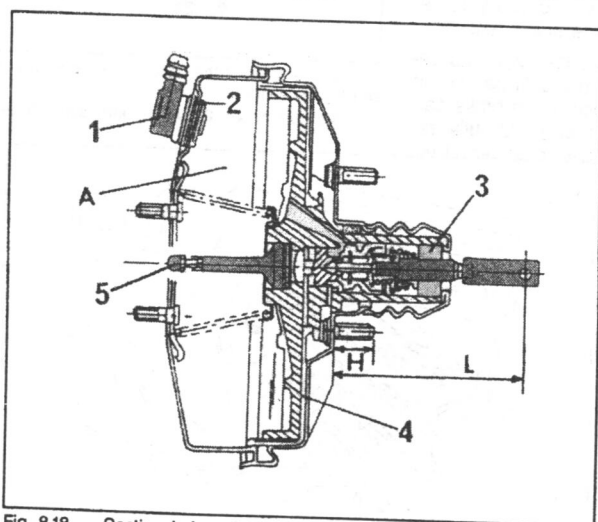

Fig. 8.18. — Sectional view of the brake servo unit with one working chamber (A). Units with 8 and 9 in. in diameter look similar.
Figs. 8.18 and 8.19 show sectional views of the two servo units, where you can see the difference. The push rod (5) has been factory-adjusted on the double-chamber unit and must not be disturbed. The push rod must, however, be adjusted in the case of a single-chamber unit, but differences must be noted. Dimension "L" must be set to 105 - 106 mm if the vehicle is built up to September 1990. After this date the dimension is 113 - 115 mm. We must mention that the new dimension has not been introduced at the same time on all vehicles.
- If the height "H" of the studs is 22.5 mm and the servo unit has a diameter of 8 in. it can be used in a vehicle built before September 1990 (servo unit with one chamber, Fig. 8.18).
- If the height "H" of the studs is 32.0 mm and the servo unit shown in Fig. 8.18 has a diameter of 8 in., you can use it in vehicles built from October 1990.
- If the height "H" of the studs is 35.0 mm and the servo unit shown in Fig. 8.18 has a diameter of 9 in., the unit will be suitable in vehicles built after January 1992.
If the servo unit shown in Fig. 8.18 is fitted, adjust the length of the push rod if the servo unit has been replaced. The push rod can be adjusted after slackening of the locknut. To make sure which of the two dimensions applies, measure the length of the old push rod which will be approximately within the two ranges already given.